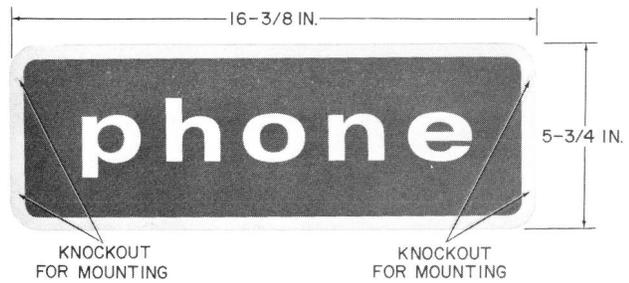

Fig. 13—KS-20125, List 1 Sign
- (a) KS-20125, List 1 sign (Fig. 13)
3.12 These signs may be mounted on flat surfaces or perpendicular to a wall (Fig. 13 and 14).